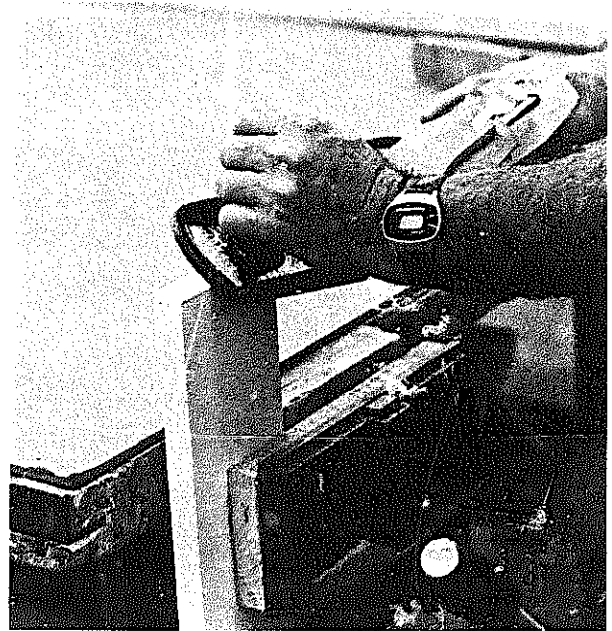

Fig. 8-46 Planing a bevel.
- c. When planing bevels on the ends of boards, plane from the edges toward the center to prevent the edge fibers from breaking off. The plane should be held at about a 45-degree angle in relation to the edge from which the cut is started. See figure 8-46.